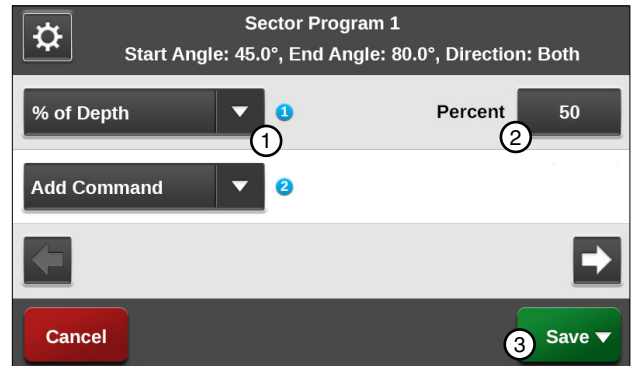

Figure 151-1 1. % of Depth 3. Save
- Use the **Next** and **Previous** buttons to scroll through the commands list and choose **% of Depth**. Refer to Figure 151-1.